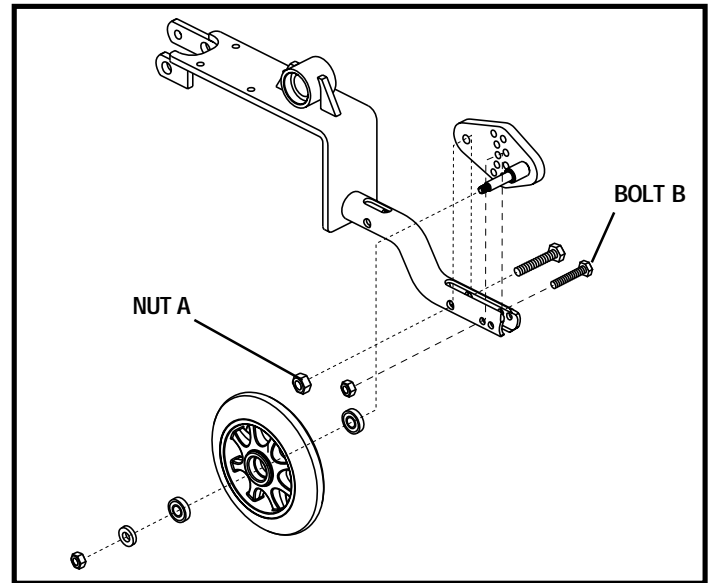

Figure 22. Anti-Tip Wheel Assembly
1. Loosen nut A. See figure 22.